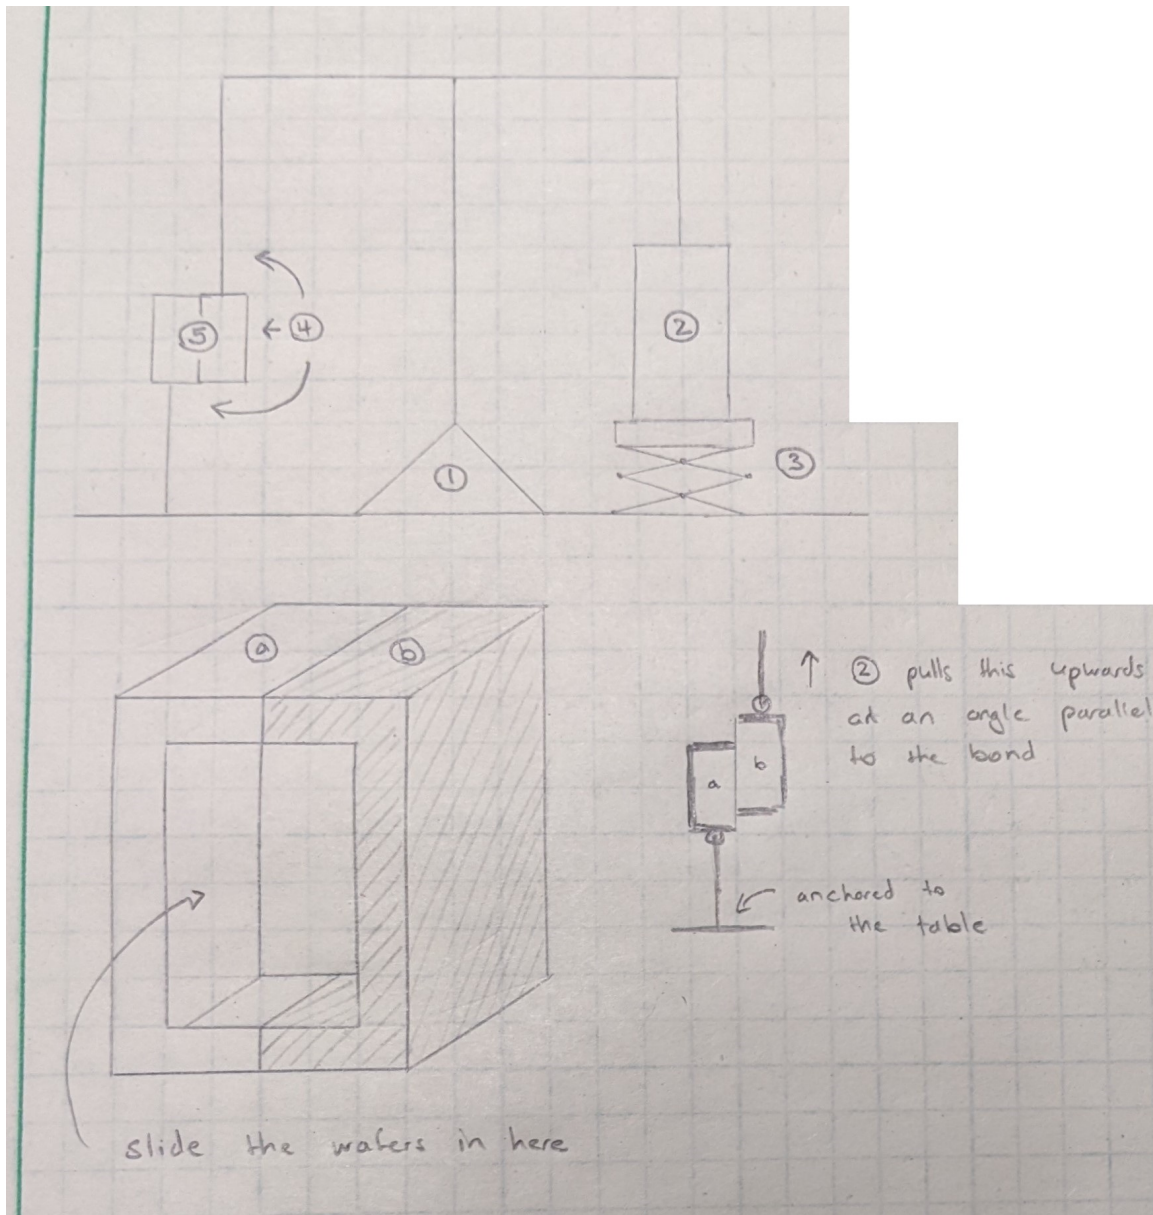

Figure 2: My design of my apparatus and the mount for the bonded wafers as well as a crude diagram of how the apparatus functions.
The shear strength is measured by mounting the optically bonded wafers on one side of a beam balance then slowly adding weight to the other side until the bond is broken. As shown in Figure 2, the bonded wafers are mounted such that weight pulls up one side while the other remains secure. A lab jack is used to assist with adding the weights.
- This was the hardest part to design since it needs to be a snug fit while also being capable of bearing weight. My idea is to 3D print a casing like in Figure 2. I am unsure if I can 3D print with a material strong enough to bear the weight, so perhaps metal should be attached around them. The mount is attached to the beam balance with a hook.